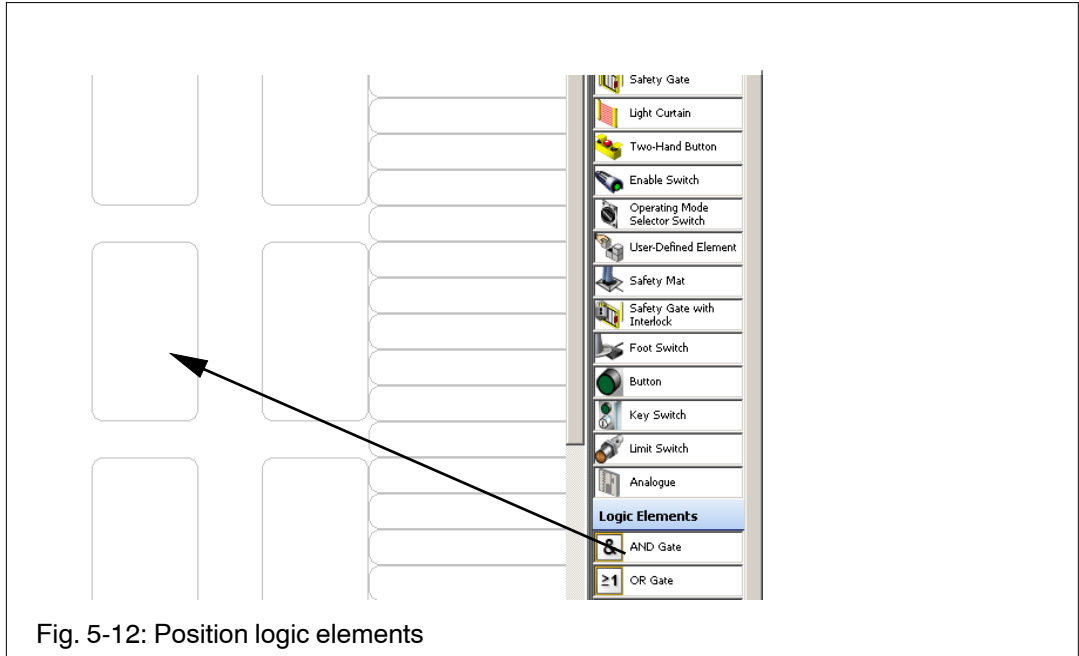

Fig. 5-12: Position logic elements
Position the logic element as shown in Fig. 5-12.
5. Follow exactly the same procedure for the OR gate logic element (see Fig. 5-12).